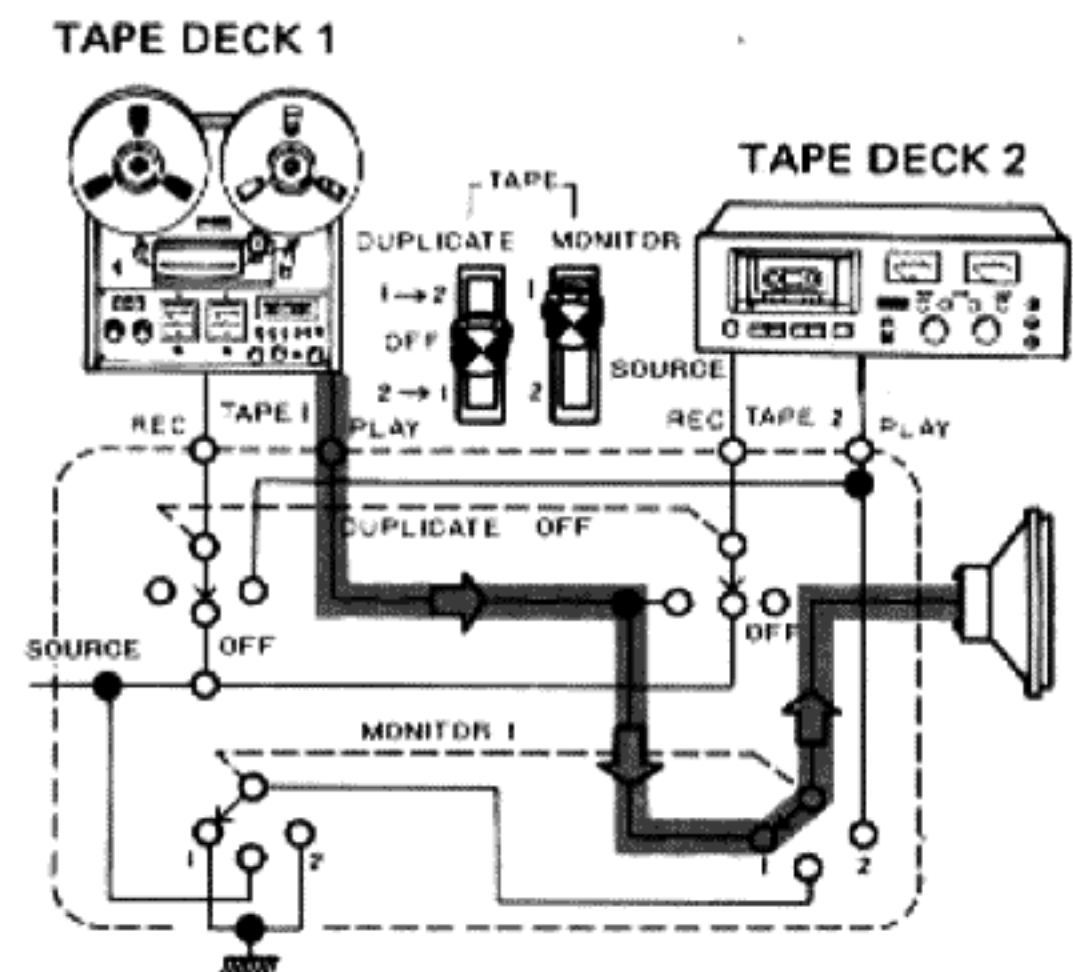

Fig. 16
1. Set TAPE MONITOR switch to 1 if the tape deck is connected to the TAPE 1 jacks or to 2 if it is connected to the TAPE 2 jacks (see Fig. 16).